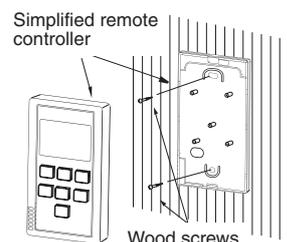

Fig. 3-48
5. Secure the back case to the wall with the wood screws (supplied). (See Fig. 3-48)